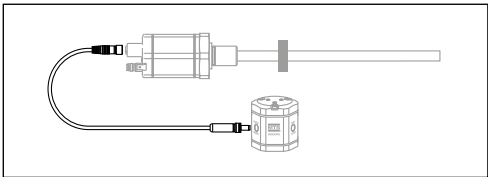

Fig. 3: Connection of TempoLink smart assistant to R-Series V sensor
The TempoLink smart assistant can be connected to all sensors of the R-Series V family. Depending on the sensor output, different adapter cables are available to connect the TempoLink smart assistant to the R-Series V sensor. Use the appropriate adapter cable ③ for the sensor output. Connect the barrel connector of the adapter cable to the connection point labeled “OUTPUT SENSOR” on the TempoLink smart assistant. Next, connect the opposite end of the adapter cable to the power supply at the R-Series V sensor. The TempoLink smart assistant also provides the supply power for the sensor. Fig. 3 shows one possible version as an example. The adapter cable is available in different versions depending on the sensor output. See the specific R-Series V operation manual for more information.